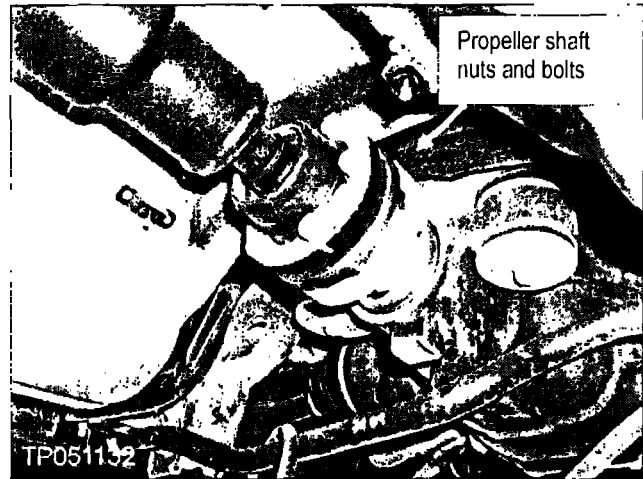

Figure 17
21. Remove and discard the propeller shaft nuts and bolts (see Figure 17).